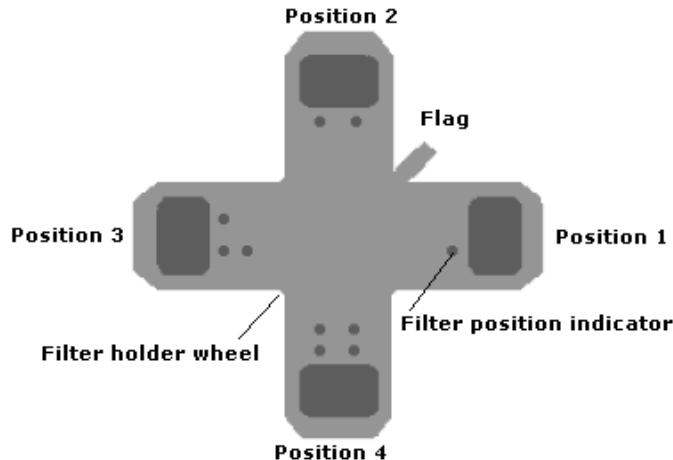

Figure 3. Filter positioning
The accessory consists of four metal arms extending from a central wheel. Each arm is labeled as 1, 2, 3 or 4 by holes etched into the wheel, just below the filter position (Figure 3).
- 2 Filters now need to be placed in the accessory. There are four filter positions, each labeled 1 to 4 by holes etched into the arms of the filter holder (Figure 3).